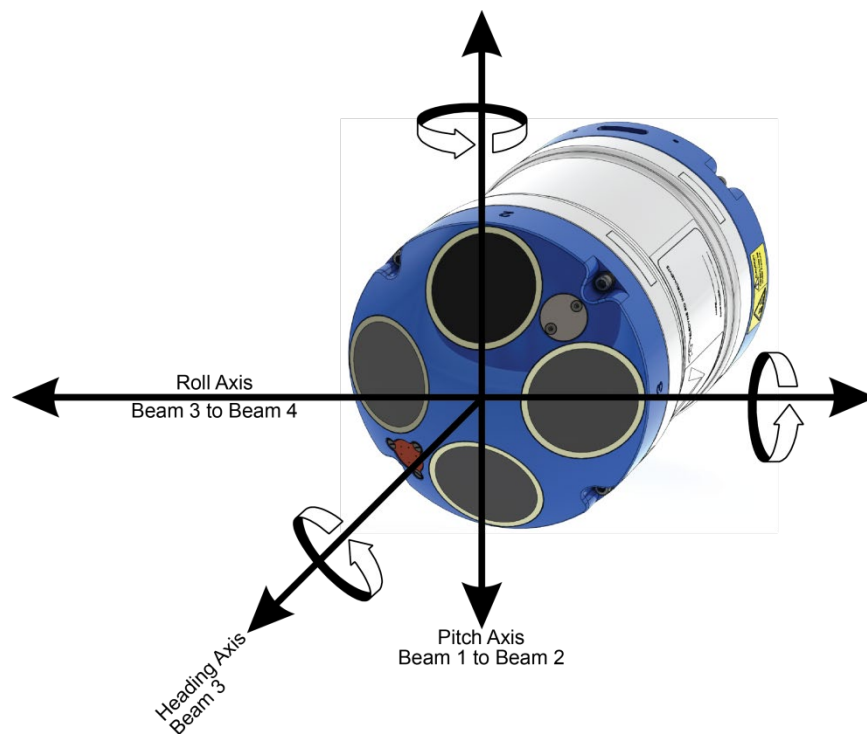

Figure 68. Pitch, Roll, and Heading
3. Use the Sensor data panel to display the sensor values. Rotate and tilt the system and verify the Pitch and Roll sensor data is reasonable (see Table 20, page 135 and Figure 68 through Figure 70). Rotate the system clockwise and verify the heading increases. Validate the accuracy at 0, 90, and 180 degrees. If the heading is off by more than 2 degrees, calibrate the compass. If the Depth sensor is not zero, zero the pressure sensor.
- Use the **PC2** test to view the sensor values. Rotate and tilt the system and verify the Pitch and Roll sensor data is reasonable (see Table 20, page 135 and Figure 68 through Figure 70). Rotate the system clockwise and verify the heading increases. Validate the accuracy at 0, 90, and 180 degrees. If the heading is off by more than 2 degrees, calibrate the compass. If the Depth sensor is not zero or shows as invalid data, zero the pressure sensor.